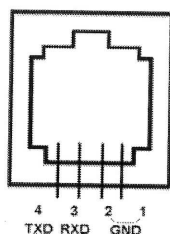

Figure 4. Serial port pin out on an 8408 hand controller
- Serial port: connect the HC to a Computer via a RS232 to 4 pin 4 wire (4P4C) RJ9 cable (iOptron item# 8412) for firmware upgrade and computer controller. The pin out of the serial port is shown in Figure 4.